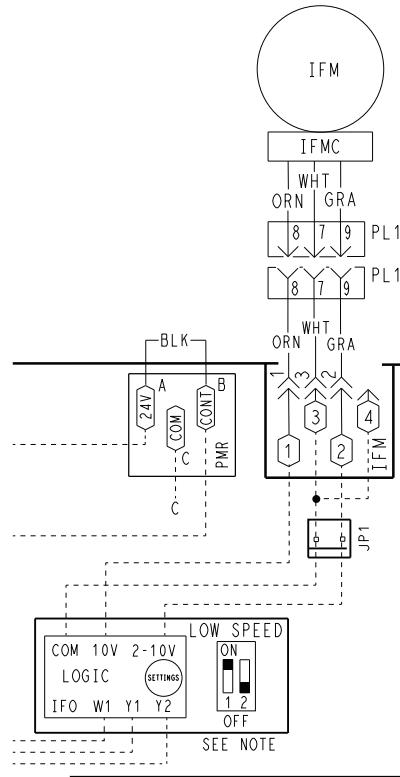

Fig. 9 – Supply Fan Control Wiring Diagram
8. Check for proper motor control voltage signal of 9.7 vdc to 10.3 vdc at IFM-1 (use JP1-2 or bottom pin of VDC terminal as common). See Fig. 9 and 10.
11. Verify control signal out to the motor by checking the voltage at JP1. Signal should be between 3.8vdc and 10.3 vdc. See Fig. 9 and 10.